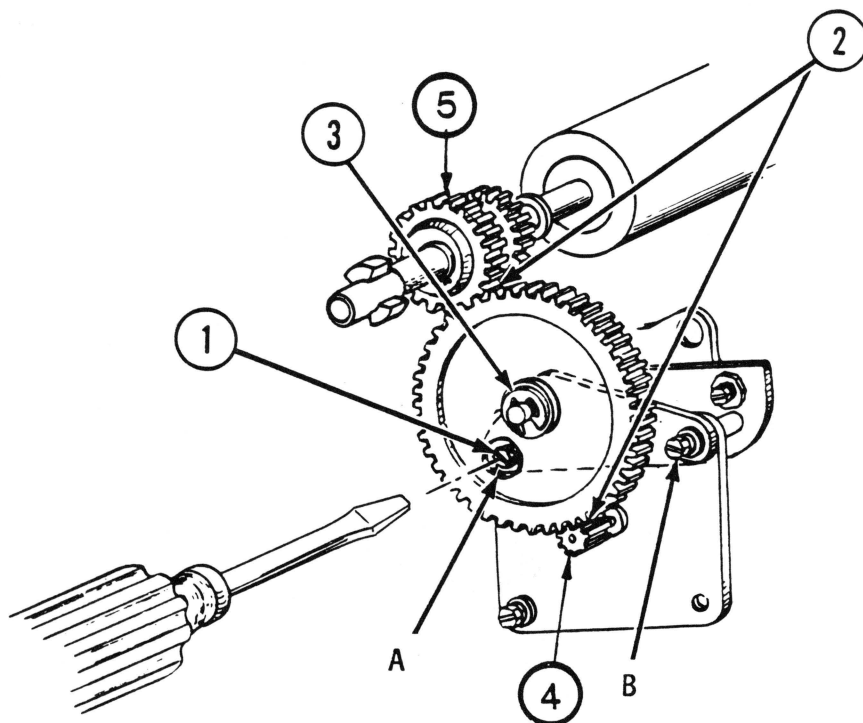

FIGURE 2
The idler gear (Figure 2, large gear) transmits the rotation of the paper feed motor gear (Figure 2, #4) to the platen drive gear (Figure 2, #5). The three gears must mesh properly to prevent binding or backlash (particularly when paper feeds both forward and reverse, as in plotting graphs).
3. Turn platen knob to rotate idler gear so that screw "A" is visible through hole in gear (see Figure 2, #1).
4. With flat blade screwdriver, loosen the idler gear screws ("A" and "B" in Figure 2). Push the idler gear so that its teeth "bottom" in both the paper feed motor gear and the platen drive gear (see Figure 2, #2).
6. To check for the "no bind" condition, remove the idler gear E-ring retainer (see Figure 2, #3); push it off with a screwdriver. Slide the idler gear back and forth on its mounting stud. If you cannot move the idler gear, or if it binds on either of the other two gears, repeat steps 1 and 2 to readjust it. When idler gear slides freely, reinstall the E-ring.
7. To check for the "no backlash" condition, hold the idler gear and rotate the platen knob back and forth about a quarter turn. There should be no appreciable free play between the teeth of the idler gear and either the tractor gear or the paper feed gear as the teeth mesh (see Figure 2, #2).